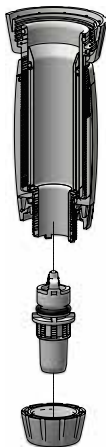

Fig. 25
- Unscrew the suction valve locking nut (**Fig. 25**)